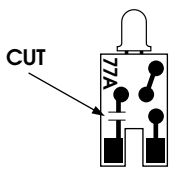
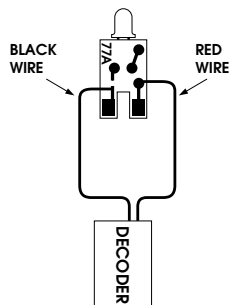
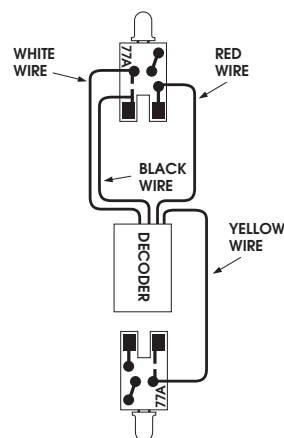

Fig. 1
Fig. 2
Fig. 3
- Lay the light boards out in front of you, parts side down as shown (Fig. 1). With a sharp hobby knife make a cut in the circuit trace as shown (Fig. 1). Attach the BLACK and RED wires as shown (Fig. 2). Solder WHITE wire to front light board and the YELLOW wire to rear light board per (Fig. 3).